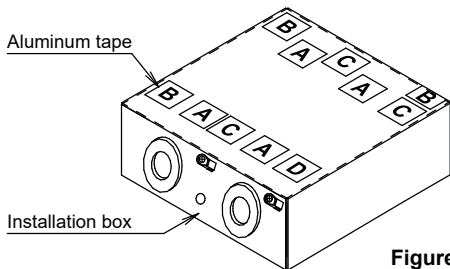

Figure 1
- I. Detach the aluminium tape of the installation box to insert the PCB supports, refer to Figure 1.